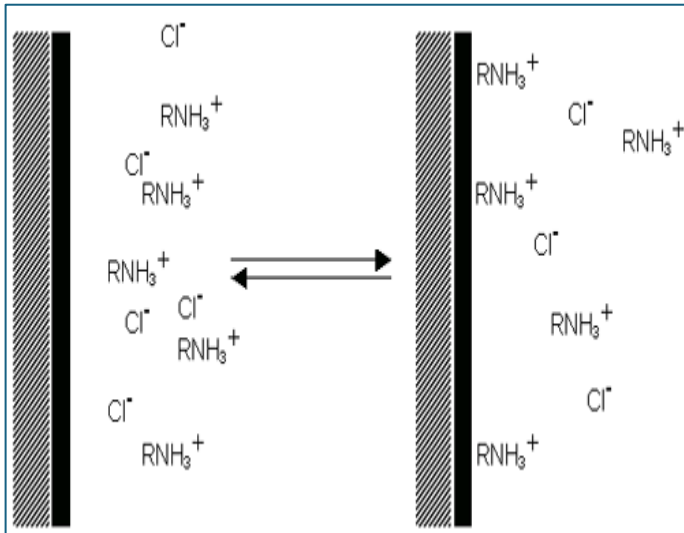

Figure 6(a): Origin of surface charge by specific adsorption of a cationic surfactant. R = hydrocarbon chain
- Surfactant ions may be specifically adsorbed on the surface of a particle, leading, in the case of cationic surfactants, to a positively charged surface (figure 6(a)) and, in the case of anionic surfactants, to a negatively charged surface (figure 6(b)) = to keep repulsion and maintain stability